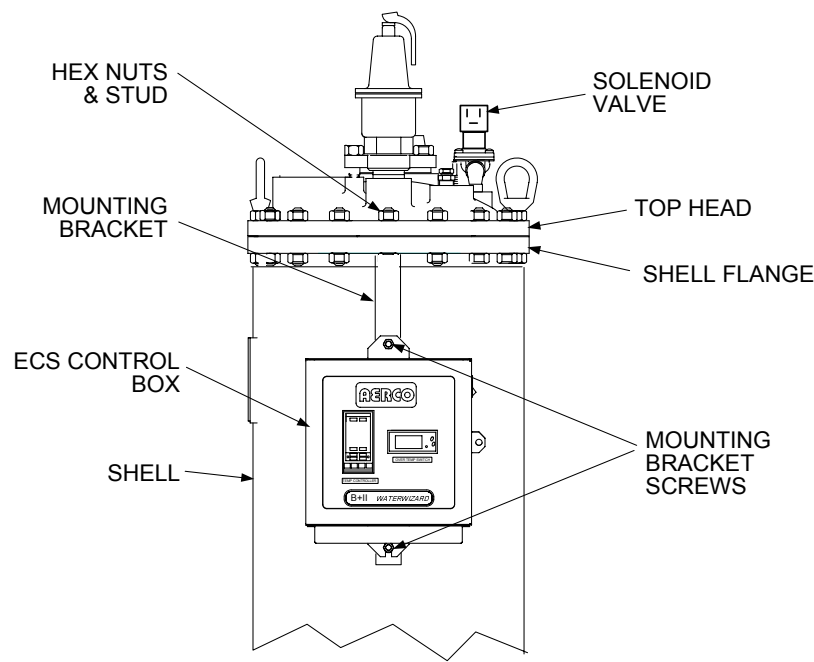

Figure 4-15. ECS Control Box Mounting Location
2. Insert the top end of the Mounting Bracket under the previously loosened hex nut at the top of the Heater Shell (Figure 4-15). After the Bracket is vertically aligned, tighten the hex nut to secure the Mounting Bracket and ECS Control Box to the Water Heater.